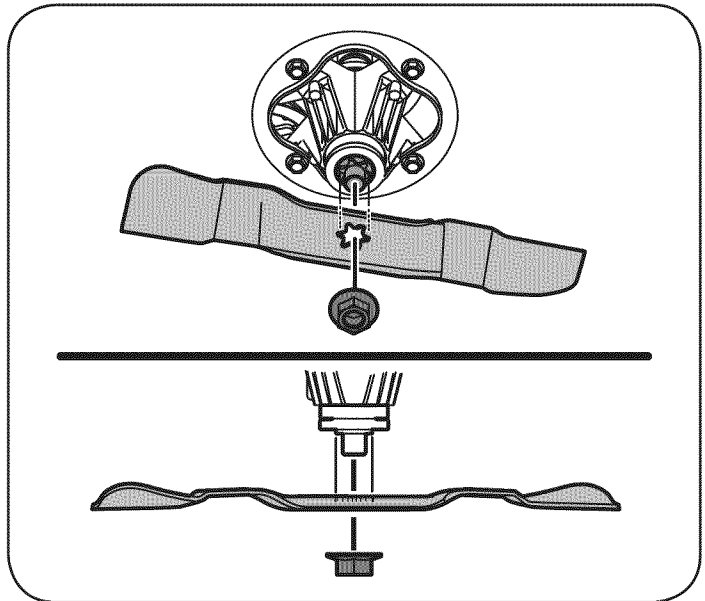

Figure 15
4. Remove the hex flange nuts that secures the blades to the spindle assembly. See Figure 15.